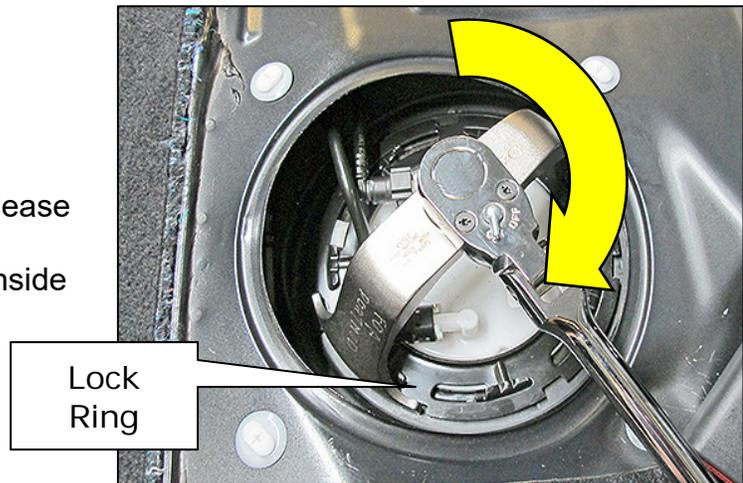

Figure 12
9. Using tool J-45722 (Figure 11), rotate the fuel pump lock ring clockwise to lock (Figure 12).